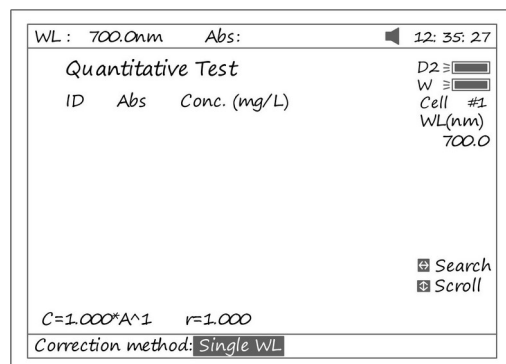

Fig 28
2. Press [SETλ] to select correction methods and enter the wavelength. There are three correction methods (single, Isoabsorbance and 3 point, Fig 28)